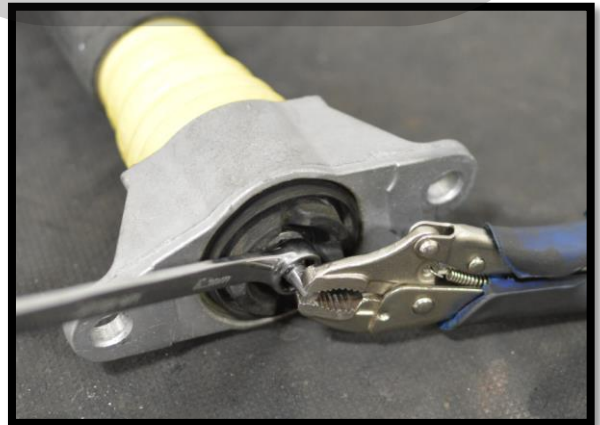

Figure 5a
- a) Use a 12mm wrench and vise grips to remove the top hat from the OE rear shock as shown in **Figure 5a.**